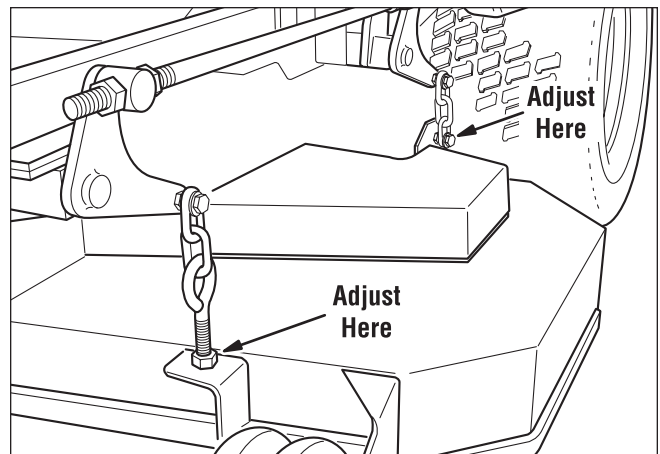

Figure 39. Hanger Chain Adjustment
7. Adjust the front eyebolts until the chains are tight and the deck is still resting on the 2 x 4's. Tighten jam nuts. See Figure 39.
8. Loosen the nuts and allow the rear of the deck to rest on the 2 x 4's and 1/4" spacers. Slide the chains in the slots until the chains are tight and tighten the nuts. See Figure 39.